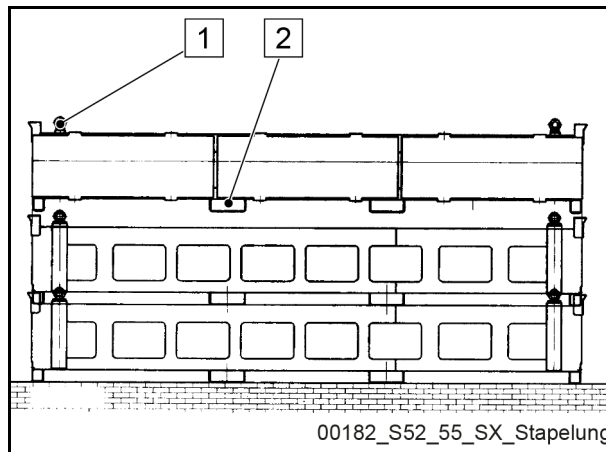

Fig. 483 Stacking of equal length stowing boxes
Equal length stowing boxes are stackable (even when assembled) (**Fig. 483**).
The stowing boxes and cassettes are equipped with bushings (2) (**Fig. 483**) so they can be lifted using a forklift and ring screws (1) (**Fig. 483**) or bores (for cassettes) for crane loading.